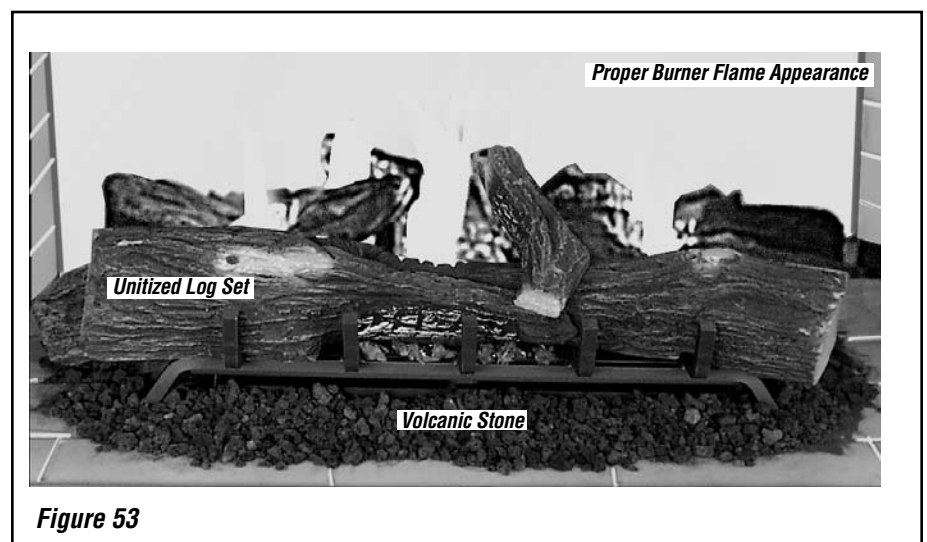

Figure 53
- Place the log set so that the four inner notches on the underside of the log set fit over the four risers located on the burner ends. See **Figure 53**. This procedure is accomplished primarily by feel, as the log set masks the burner risers as it is being installed.
- As a final check for correct log set placement, check that the four outer notches on the underside of the log set fit over the burner tines as indicated in **Figure 53**.